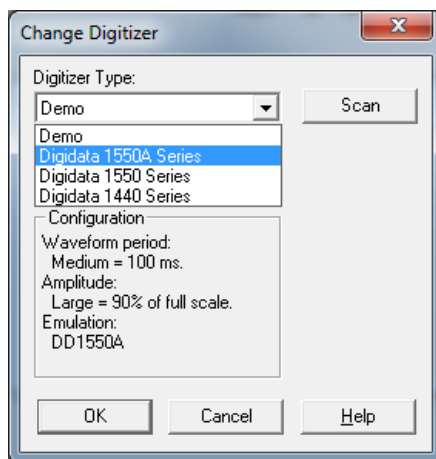

Figure 2-2: Digitizer Type Selection of Digidata 1550A digitizer
3. In the **Change Digitizer** dialog select **Digidata 1550A Series** from the **Digitizer Type** list (Figure 2-2 on page 14).